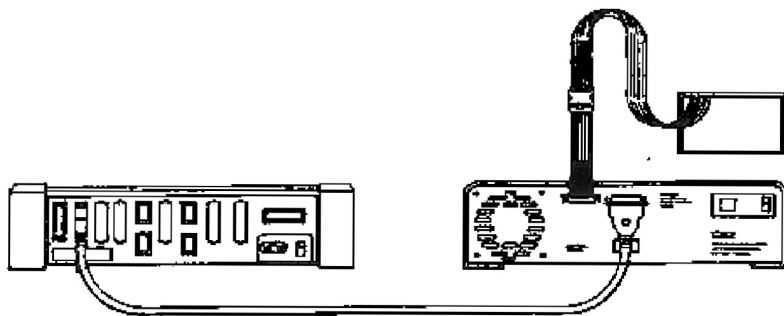

Figure 2-10. Hardware Configuration (Apple II/e with Disk II)
14. Your hardware configuration so far should appear as illustrated in Figure 2-10. Now, skip to step 20.